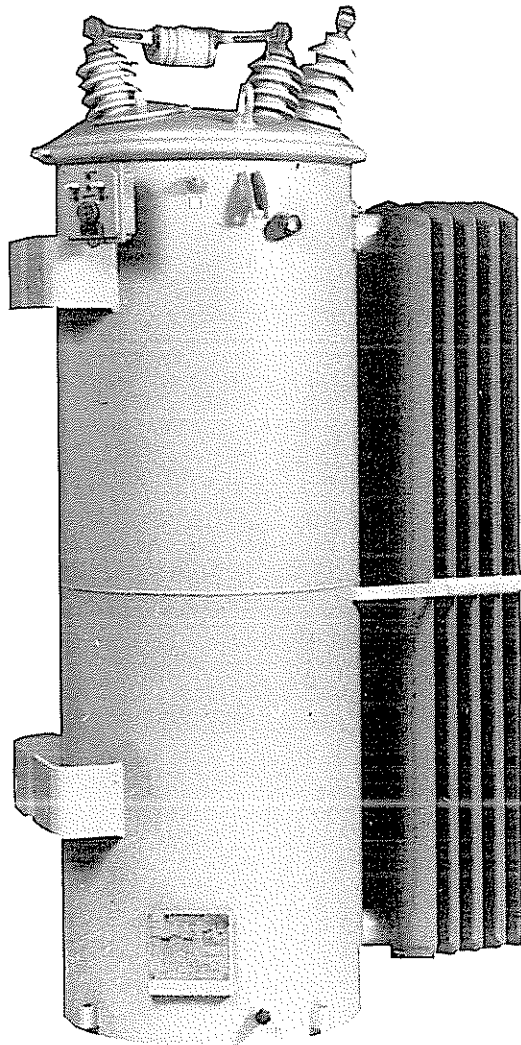
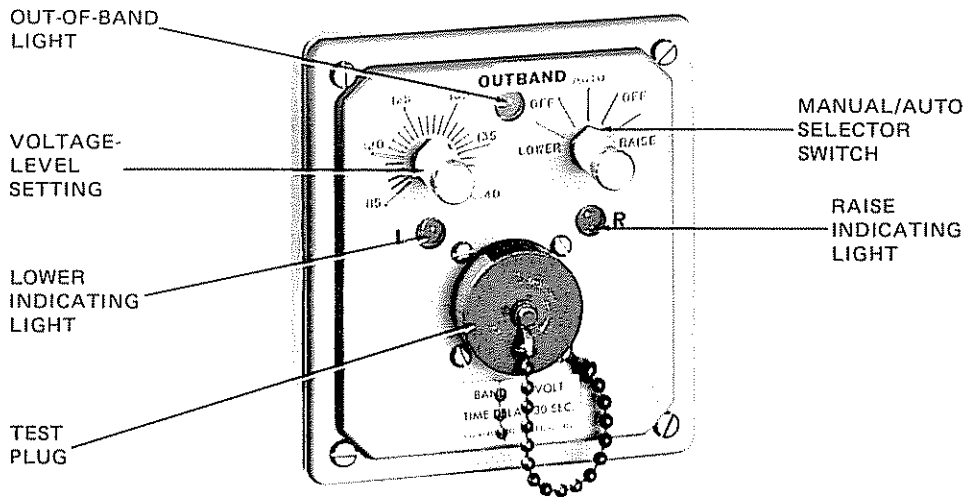

Figure 1
Figure 2
The simplified regulator (Figure 1) corrects voltage from 10% boost to 10% buck in thirty-two (32) 5/8% steps (16 RAISE; 16 LOWER). A solid-state control actuates the tap changer in response to feeder voltage fluctuations. The control (Figure 2) features a fixed bandwidth ± 1 volt, an adjustable voltage level setting, and manual or automatic operation. On the face of the control, light-emitting diodes (LEDs) that operate from a polarized switch on the regulator tap changer. One diode indicates when the tap changer is in any of the 16 RAISE positions; the other LED indicates when the regulator is in any of the 16 LOWER positions. In the neutral position, both RAISE and LOWER light-emitting diodes are off, and the neutral lamp (mounted on the tank) is lit, providing two checks for the neutral position. Another LED indicates when the voltage is out of band. A test plug monitors output voltage.